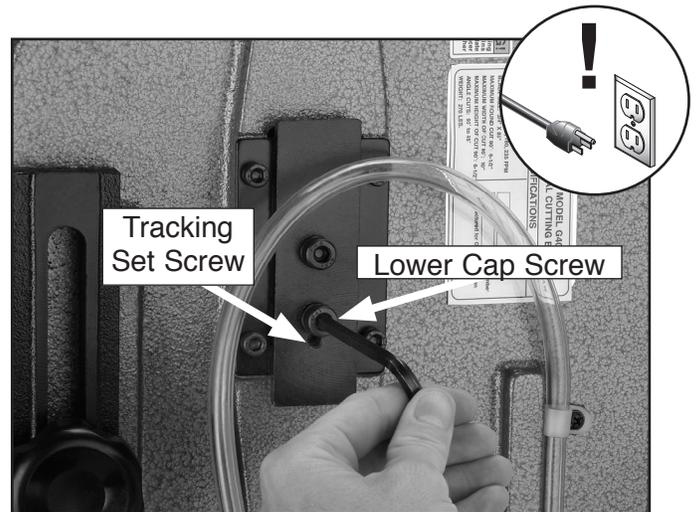

Figure 41. Adjusting tracking set screw.
4. Loosen, but do not remove the lower cap screw in the blade wheel tilting mechanism (**Figure 41**).
6. Adjust the tracking set screw with a 4mm hex wrench as shown in **Figure 41**, then tighten the cap screw loosened in **Step 4**.